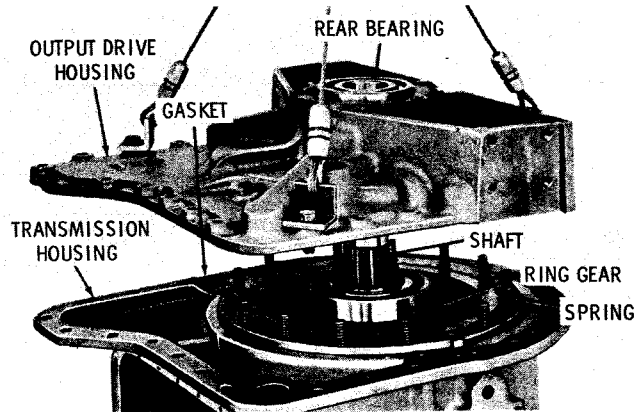

Fig. 5-61. Removing output drive housing from transmission housing
(11) Remove 27 bolts and lockwashers which secure the output drive housing assembly to the transmission housing (fig. 5-61). Using a lifting sling, remove the drive housing assembly (with the output pump, if used) from the transmission. Remove the gasket. If necessary, tap the end of the output shaft, as the housing is raised, to free the rear bearing from the shaft. If the reverse-range planetary carrier starts to raise with the cover, pry the ring gear away from the housing. Remove the reverse-range clutch piston return springs from the transmission. Refer to paragraph 6-24 for rebuild of the output drive housing.